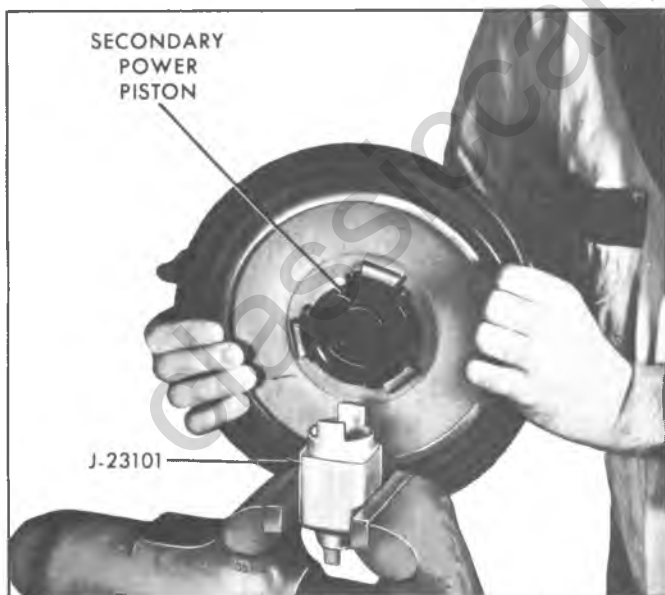

Fig. 4B--Positioning Secondary Power Piston in Tool J-23101 (Large Dia. End Up)
- Mount double-ended Tool J-23101 (with large diameter end up) in a vise. Position the secondary power piston so that the two radial slots in the piston fit over the ears (tang) of the tool (fig. 4B).
20. Mount Tool J-23101 (with large diameter end up) in a vise. Position the secondary power piston so that the radial slots in the piston fit over the ears (tangs) of the tool. Apply a light coat of Delco Silicone Lube #5459912 (or equivalent) to the tube of the secondary power piston (fig. 4B).